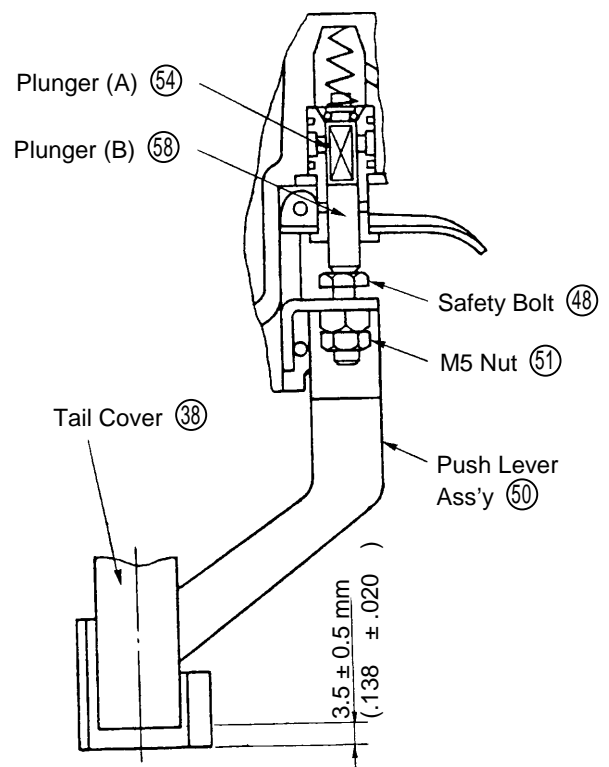

Fig. 14 Push lever assembly adjustment
- Be very careful in handling the Plunger Spring (52), as it can become twisted very easily.
- To prevent the two O-Rings on the outside of the Valve Bushing (55) from being damaged when inserted into the Body, carefully apply grease to the Body hole and the outer circumference of the O-Rings prior to assembly.
(c) Adjustment of the Push Lever Ass'y (50) (see Fig. 14):
- The Push Lever Ass'y (50) can be adjusted by loosening the M5 Nut (51) and turning the Safety Bolt (48).
- Perform adjustment to a point where the resistance of Plunger (B) (58) pushing up Plunger (A) (54) is felt when the Push Lever Ass'y is raised. At this point, the lower end of the Tail Cover (38) should be separated from the lower end of the Push Lever Ass'y by $3.5 \pm 0.5 \text{ mm}$ ($.138 \pm .020$).